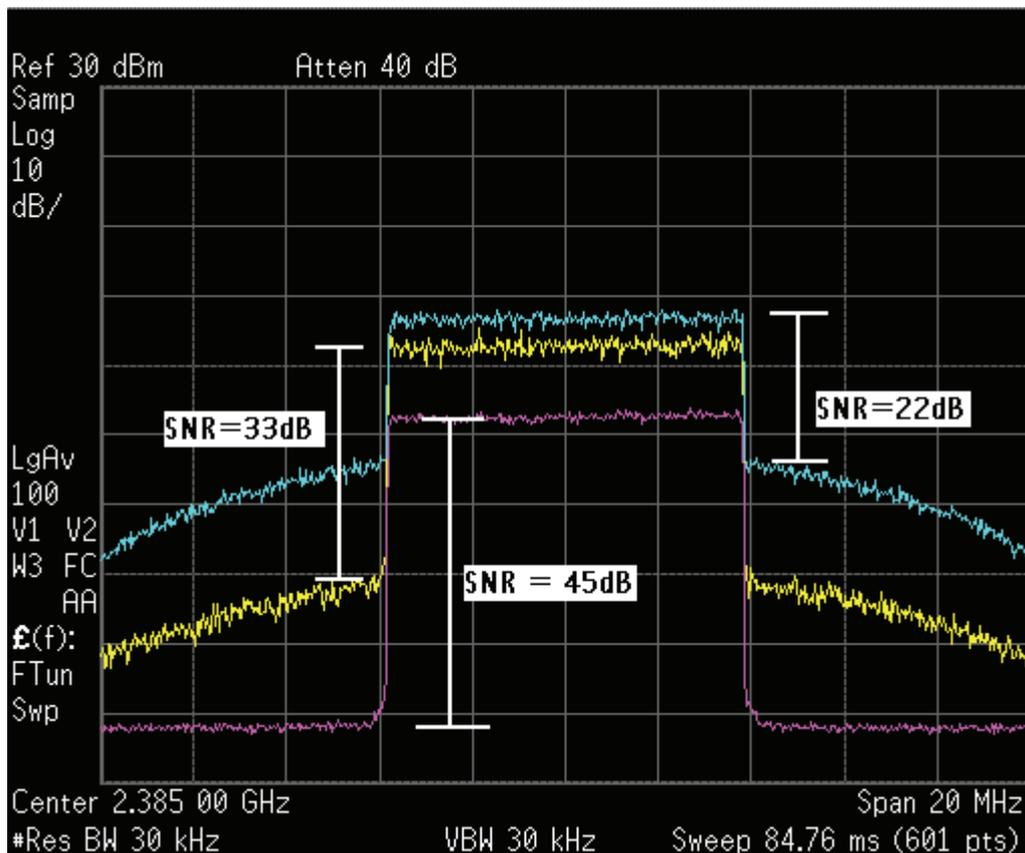

Fig.1
These higher PAR levels translate to higher power being needed in an amplifier. That can be seen as inefficiency, as the heavy lifting is being done at lower power levels, or as a reasonable cost of increasing the density of the data. Crest Factor Reduction (CFR) schemes that pre-clip the signal can reduce the PAR for some types of modulation, but even so, complex modulated signals will still degrade slowly over a wide power range as the signal peaks are increasingly clipped in the amplifier (see **fig. 1**). This causes progressively increasing digital errors and also pushes energy into adjacent channels, creating "noise". It is important to remember that PAR for complex-waveform signals can vary with the data payload sent, so try to test your system with a worst-case data set. Pseudo-noise (PN) data produced by a signal generator may not represent your worst-case signal.
Figure 1 shows an OFDM signal degrading in an amplifier as the Peak power approaches and crosses over the  $P_1$  compression point. The lowest trace is an uncompressed signal with better than a 45dB signal-to-noise ratio (SNR). The middle Trace 2 shows the input signal 10dB higher than for Trace 1, with signal peaks just touching the  $P_1$  point. While the gain across the data channel has increased by 10dB, Intermodulation distortion has created "shoulders" of noise, reducing the SNR to 33dB. Increasing the drive by only 5dB in Trace 3 shows that the power in the adjacent channels has increased by 16dB, and SNR has been reduced to about 22dB. Your specific application will determine what level of SNR is required or can be tolerated.